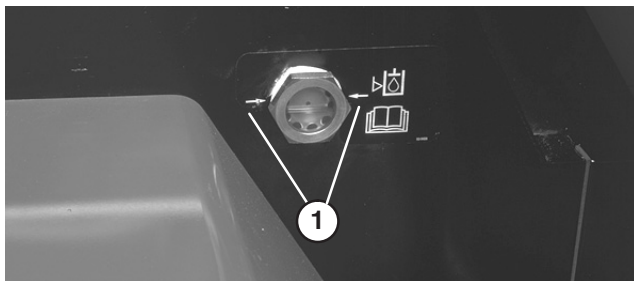
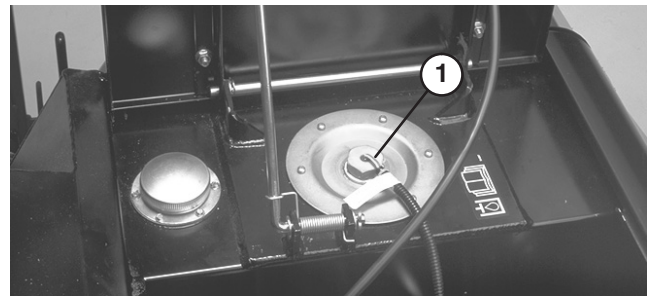

Figure 40
Figure 41
With machine on a level surface, hydraulic oil level should be 1/4 to 1/2 inch below arrows on sight glass, when oil is cold. Warm oil should be even with arrows on sight glass (Fig. 40). If level is low, add hydraulic oil.
- Clean around reservoir cover (Fig. 41). Remove cover and add hydraulic oil until it is even with arrows on sight glass (Fig. 40). Refer to Checking the Hydraulic Oil.
4. With cutting units up and oil warm, look into sight glass (Fig. 40). If hydraulic oil is not even with arrows, add enough to raise to proper level. Do not fill full if oil is cold.
6. Look into sight glass (Fig. 40). Hydraulic oil level should be even with arrows when oil is warm. If level is low, add hydraulic oil to the reservoir.